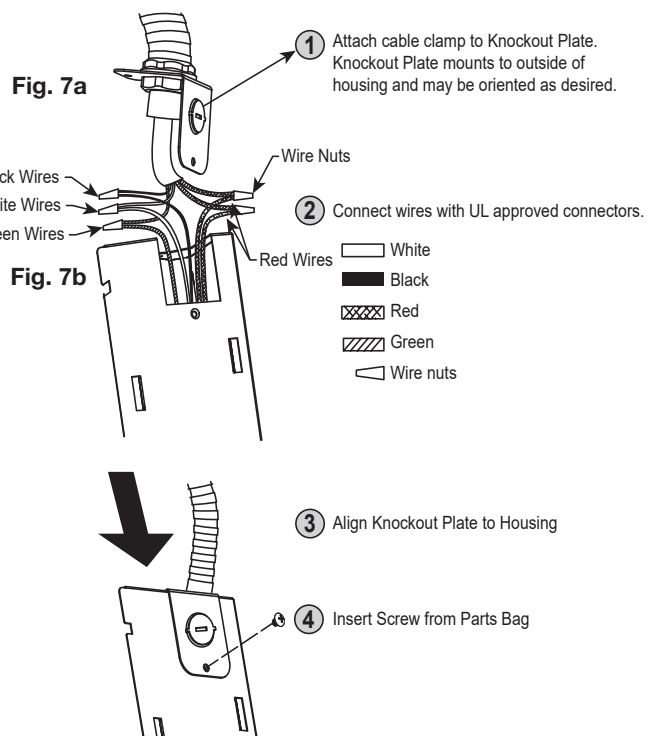

**Fig. 6**
- Install circular duct and secure it with clamps or ties and seal it with mastic or approved duct tape. Duct adaptor can accept 4, 5 or 6 inch (101.6, 127 or 152.4 mm) circular duct. See Fig. 6